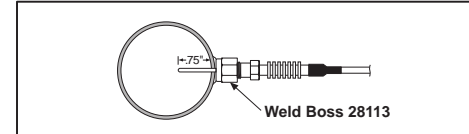

Figure 2. Welded Boss Type
3. Insert element into exhaust no deeper than .75 inch (see **Figure 2**). OPTIONAL- lubricate probe threads with high temperature lubricant (2000°F)